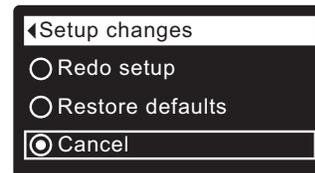

FIG. 84
7. Press the SELECT (O) button to display the Setup changes menu (See Figure 84).
8. If the desired option already has a dot next to it (See Figure 84), go to Step 9. Otherwise, press the DOWN (▼) or UP (▲) buttons to scroll to the desired option, then press SELECT (O) to choose it.